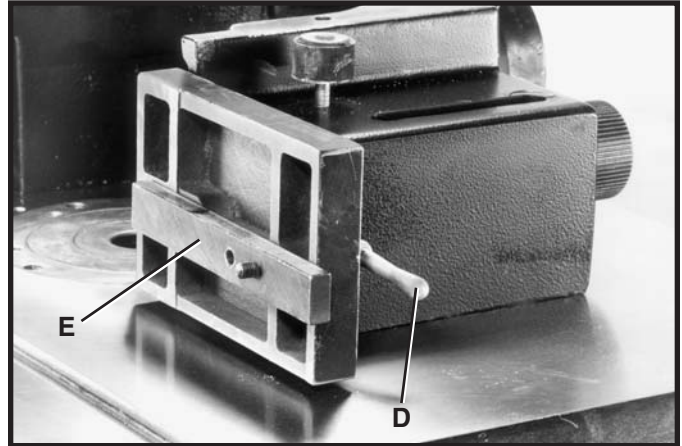

Fig. 16
3. Fasten bar (E) to the front of the fence half using the locking lever and washers (D), as shown in Figs. 16 and 17. Assemble the remaining bar to the other fence half in the same manner. **NOTE: Locking levers (D) are spring-loaded and can be repositioned by pulling out the handle and repositioning it on the nut located underneath the hub of the handle.**